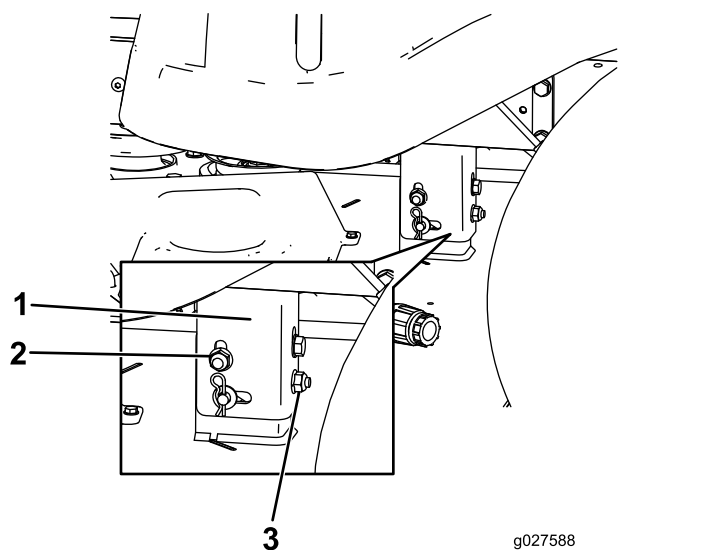

Figure 62
8. Raise or lower the left side of the mower deck by rotating the rear nut (Figure 62).
Note: Rotate the rear nut clockwise to raise the mower deck; rotate the rear nut counter-clockwise to lower the mower deck (Figure 62).